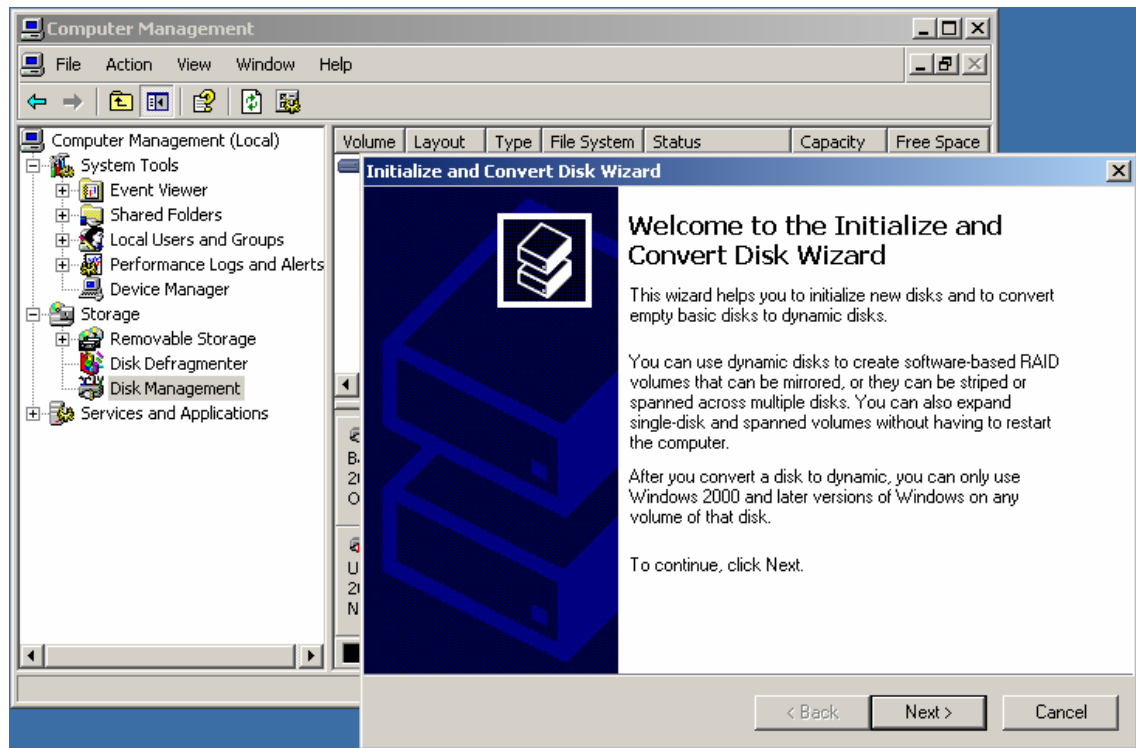

Figure 6-20. The Initialize and Convert Disk Wizard
- 24) Once the system has booted up into Windows®, right-click on the **My Computer** icon and then select the **Manage** option. In the ensuing **Computer Management** dialog, click on the **Disk Management** item. As you have just created a new RAID array, this will automatically launch the **Initialize and Convert Disk Wizard** as shown in Figure 6-20.